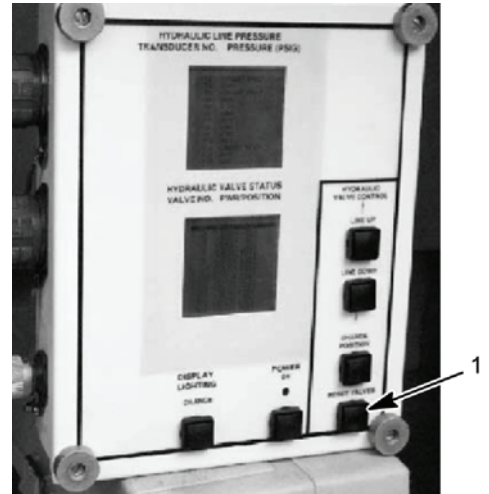

Figure 18. HDC Control Box
- Reset all HDC solenoid valves by selecting the RESET VALVES button (Figure 18, item 1) on the HDC control box.